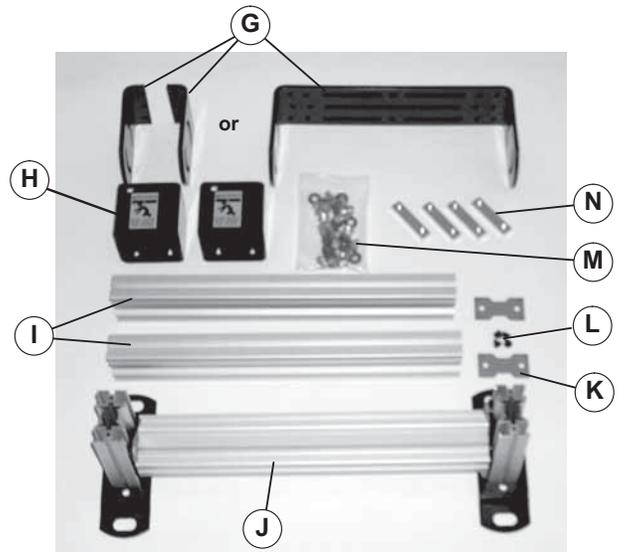
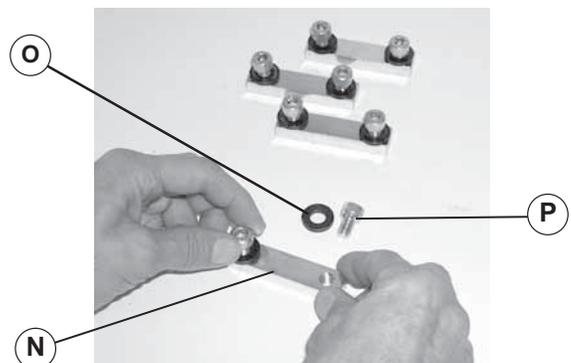

Figure 2
Figure 3
1. Typical components of multi tier stand (Figure 2).
2. Open tier hardware pack (Figure 2, item M). Install two hard washers (Figure 3, item O) and M8 x 12mm socket head screws (P) on tube joining bar (N). Do not tighten screws.